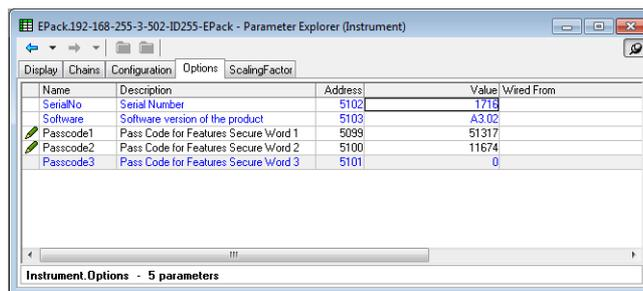

Figure 152 Instrument options configuration
1. Telephone the local Eurotherm Sales/Service agent with the serial number of the instrument to be updated, and the current software version. All required information (Serial Number, Software version, current features codes) can be found in Instrument Option folder using iTools (see Figure 152 below). This information can also be found through HMI in configuration mode 'Info' menu.